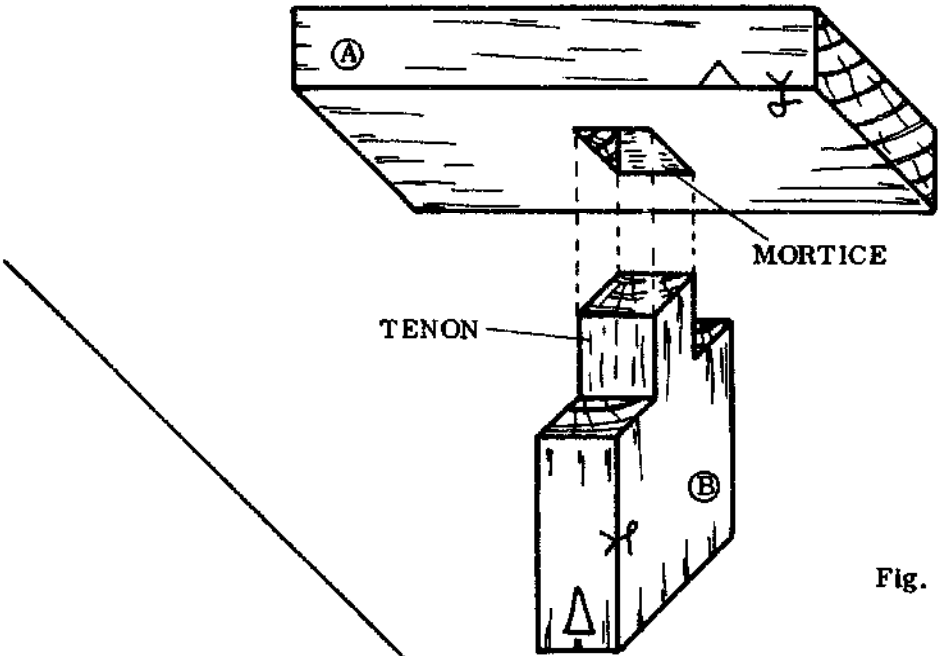

Fig. 1
This is one of the commonest and strongest joints. The two parts are (Fig. 1): the tenon (B) which is a projection on the end of one part and the mortice (A), the hole in the other part into which the tenon fits. The tenon is usually 1/3rd of the width of the board.